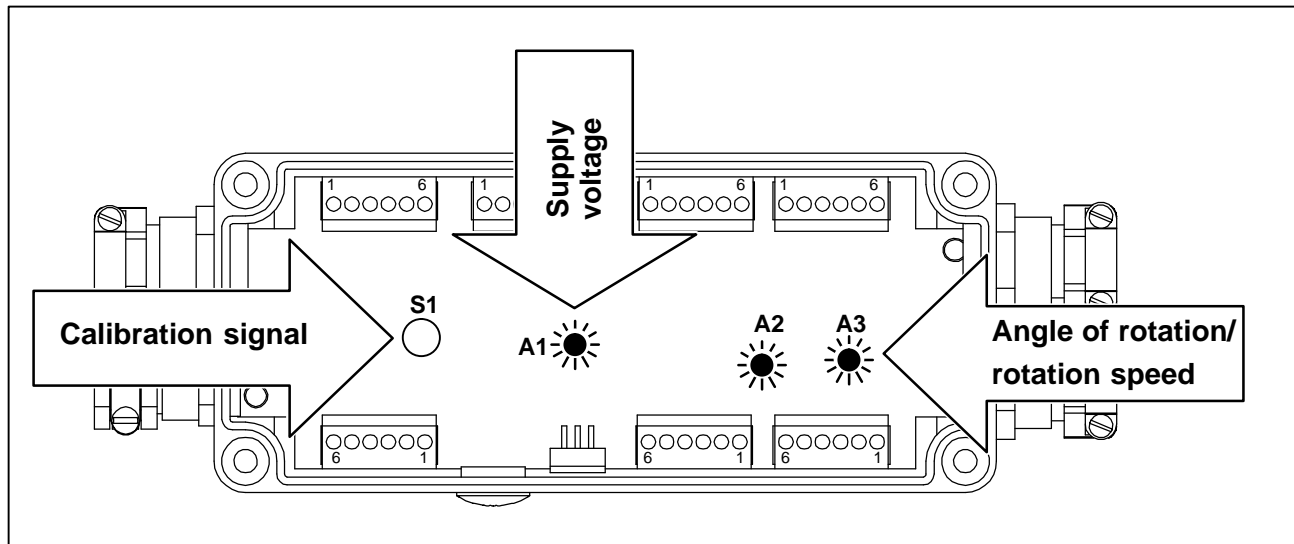

Fig.9.5: Control LEDs and calibration signal probe
- with probe S1 on the board (as long as this is pressed; see Fig.9.5).